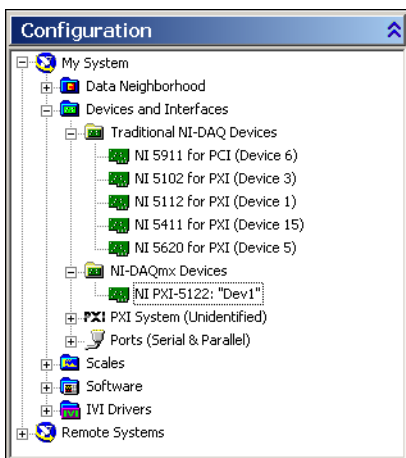

Figure 7. MAX Configuration Tree
2. Double-click **Devices and Interfaces** to see the list of installed devices. MAX automatically detects the installed device. The configuration tree lists both Traditional NI-DAQ devices and NI-DAQmx devices, as shown in Figure 7.